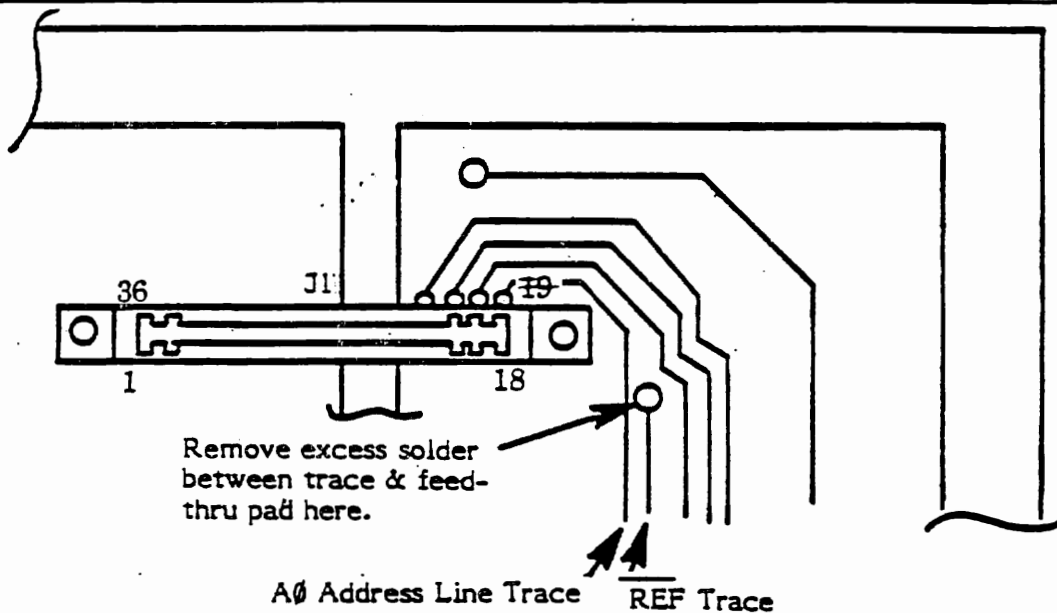

Figure 1. 5200 PCB Solder Side at J1
- 3) Locate connector J1, the adjacent A0 Address trace and the feed-thru pad of the REF Trace (See Figure 1).